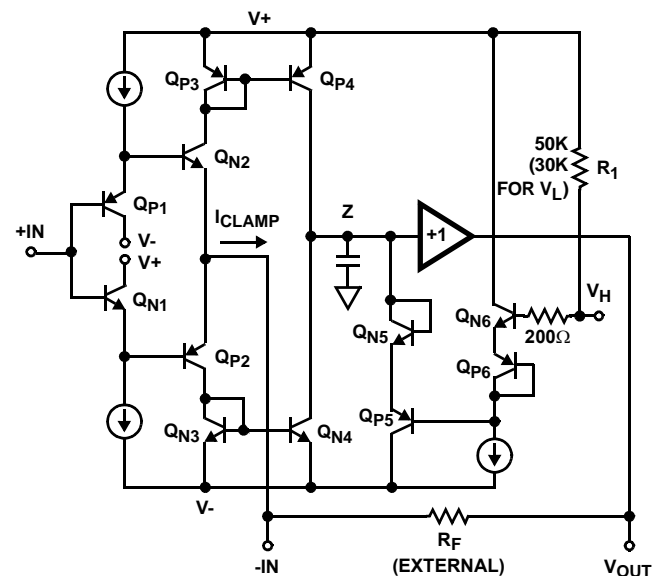

FIGURE 1. HFA1130 SIMPLIFIED V_H CLAMP CIRCUITRY
Figure 1 shows a simplified schematic of the HFA1130 input stage, and the high clamp (V_H) circuitry. As with all current feedback amplifiers, there is a unity gain buffer ($Q_{X1} - Q_{X2}$) between the positive and negative inputs. This buffer forces $-IN$ to track $+IN$, and sets up a slewing current of $(V_{-IN} - V_{OUT})/R_F$. This current is mirrored onto the high impedance node (Z) by $Q_{X3} - Q_{X4}$, where it is converted to a voltage and fed to the output via another unity gain buffer. If no clamping is utilized, the high impedance node may swing within the limits defined by Q_{P4} and Q_{N4} . Note that when the output reaches its quiescent value, the current flowing through $-IN$ is reduced to only that small current ($-I_{\text{BIAS}}$) required to keep the output at the final voltage.
The clamped output voltage will not be exactly equal to the voltage applied to V_H or V_L . Offset errors, mostly due to V_{BE} mismatches, necessitate a clamp accuracy parameter which is found in the device specifications. Clamp accuracy is a function of the clamping conditions. Referring again to Figure 1, it can be seen that one component of clamp accuracy is the V_{BE} mismatch between the Q_{X6} transistors, and the Q_{X5} transistors. If the transistors always ran at the same current level there would be no V_{BE} mismatch, and no contribution to the inaccuracy. The Q_{X6} transistors are biased at a constant current, but as described earlier, the current through Q_{X5} is equivalent to I_{CLAMP} . V_{BE} increases as I_{CLAMP} increases, causing the clamped output voltage to increase as well. I_{CLAMP} is a function of the overdrive level ($V_{-IN} - V_{OUTCLAMPED}$) and R_F , so clamp accuracy degrades as the overdrive increases, or as R_F decreases. As an example, the specified accuracy of $\pm 60mV$ for a 2X overdrive with $R_F = 510\Omega$ degrades to $\pm 220mV$ for $R_F = 240\Omega$ at the same overdrive, or to $\pm 250mV$ for a 3X overdrive with $R_F = 510\Omega$.